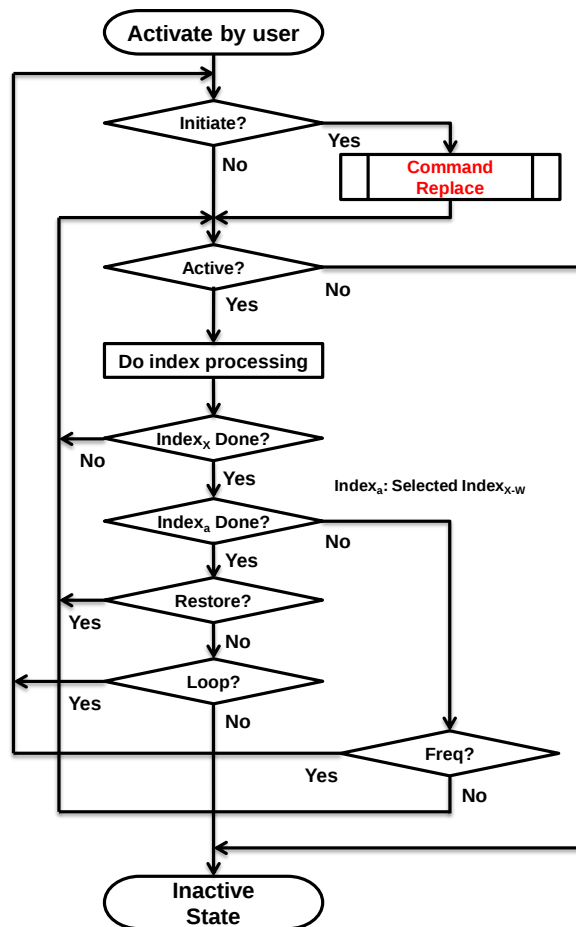

Figure 17 Command Replace Sequence
- In addition, it is possible to implement programmatic processing that stacks multiple commands on the same Index (for example, Index_Y during screen scanning). Figure 17 shows an example where a process with $\Delta Y = 64$ is divided into three areas, with three commands assigned to each area. Each group of three commands is configured to loop among themselves until the corresponding Y Index range is completed: [CL0 → CL1 → CL2] × 16 → [CL3 → CL4 → CL5] × 32 → [CL6 → CL7 → CL8] × 16.